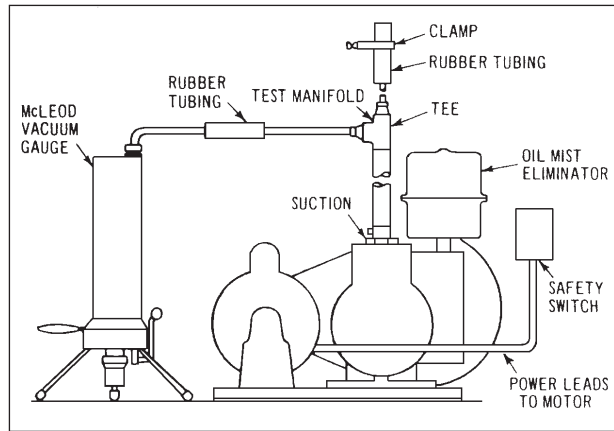

Figure 6-1 – Pump Test Manifolding
**NOTE:** If possible, also read the blank-off pressure with a thermistor or thermocouple gauge. See *Figure 6-1* and *Table 6-1* for common faults in vacuum systems.
1. Close off the pump inlet by means of a vacuum valve or short segment of manifolding, as shown in *Figure 6-1*.